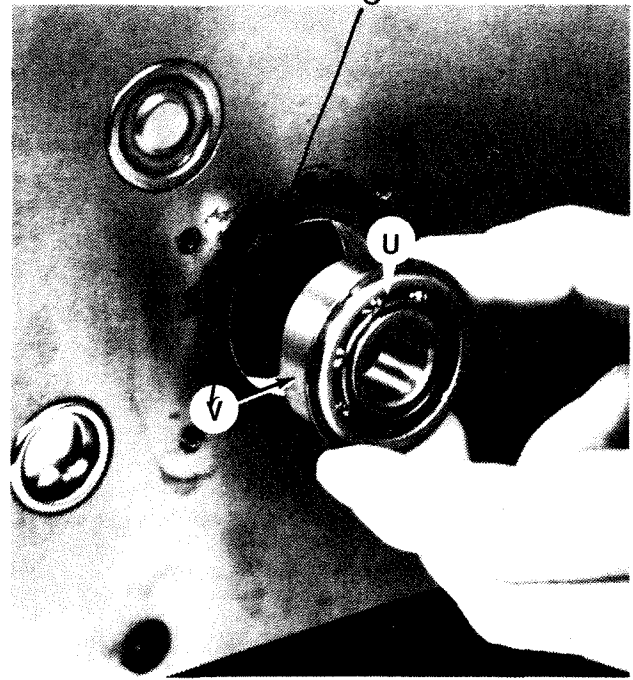

Figure 1.17 - Clutch Bearing Removal
It is not necessary to remove snap ring "U" from bearing "V", Figure 1.17, to disassemble the clutch assemblies.
16. Remove clutch bearings "V", Figure 1.17, from the face of the apron cover.
9. Replace clutch bearings "V", Figure 1.17 .